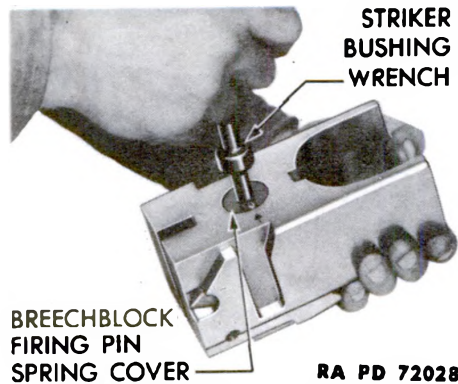
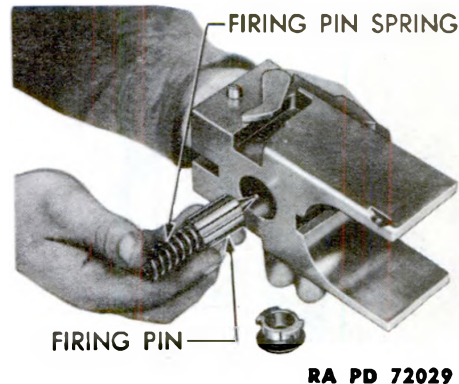

Figure 136 – Breechblock Firing Pin Spring Cover – Removal
Figure 137 – Breechblock Firing Pin and Spring – Removal
a. **Firing Pin Removal.** With the striker bushing wrench, remove the breechblock firing pin spring cover by pressing the wrench inwardly and turning it 90 degrees in either direction (fig. 136). Remove the breechblock firing pin spring and the firing pin (fig. 137).
b. **Firing Pin Installation.** Place the firing pin spring in the cup of the firing pin. Insert the spring and firing pin in the bore of the breechblock (fig. 137). With the striker bushing wrench in the opening in the back of breechblock firing pin spring cover, press the cover into the bore of the breechblock and turn the cover 90 degrees to match the outer point of the diamond on the cover with the arrow on the rear face of the breechblock (fig. 136).